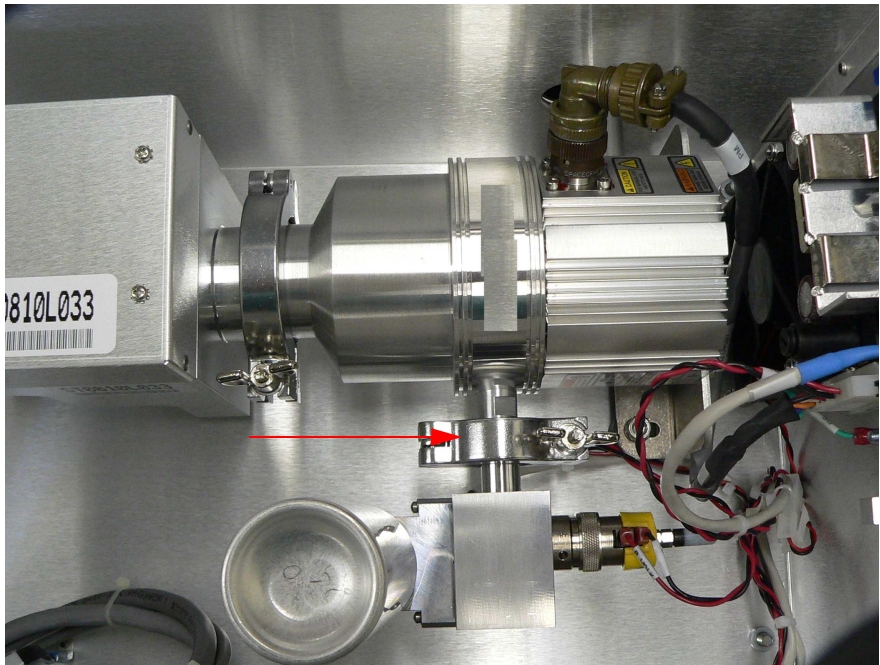

Figure 6: Calibrated Leak in Place
8. Attach the calibrated leak assembly in the orientation shown using the clamp (Figure 6: Calibrated Leak in Place).